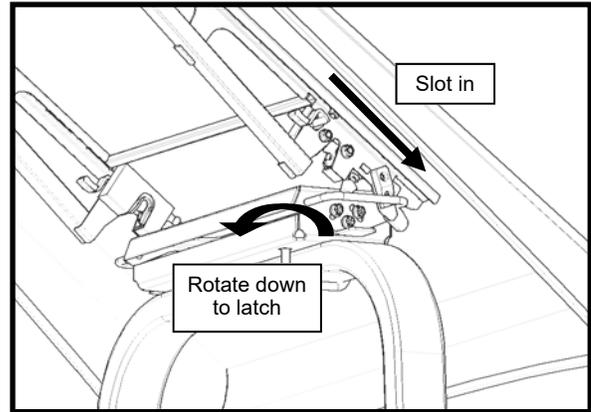

Fig. 5A (Latch Canopy)
- Loosen the jam nut on each bumper (ref. figure 5B), then mount and latch the canopy per fig. 5A. With one hand, push upwards on the canopy to take up the play in the latches. With the other hand, unthread both bumpers down finger tight to the striker plate. Unlatch and pivot the canopy up to further unthread each bumper equally one full turn at a time. Re-latch and check latching resistance after each adjustment. The bumpers should stabilize the canopy and it should require downward force to latch, but not so much that double clicking the latches becomes difficult. Unlatch a final time and tighten the jam nut on each bumper to 10 ft-lbs.